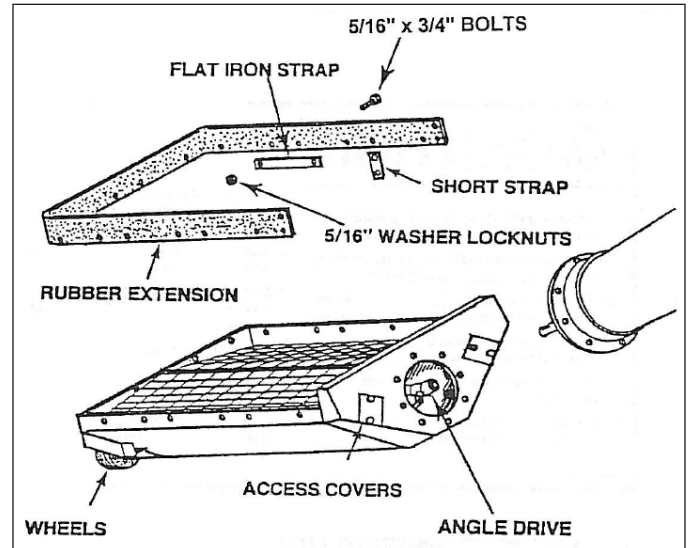

Figure No. 2
6. Install rubber extension on inside hopper lip with the following hardware (see **Figure No. 2**):